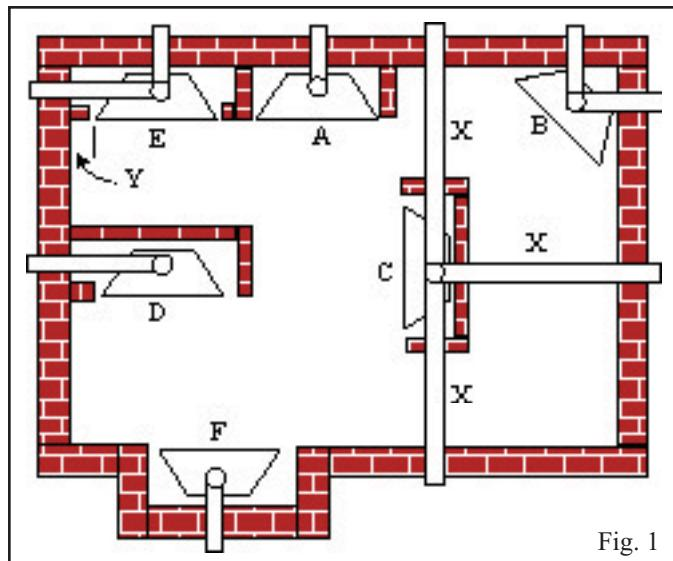

Fig. 1
* Island (C) and Room Divider (D) installation is possible as long as the horizontal portion of the vent system (X) does not exceed 20' (6.1 m). See details in the venting section of this manual.
** When you install your fireplace in a Room divider (D) or flat on the wall in a corner (E), a minimum distance of 6" (153 mm) clearance must be maintained from the perpendicular wall and the front of the appliance. See (Y) in Fig. 1.